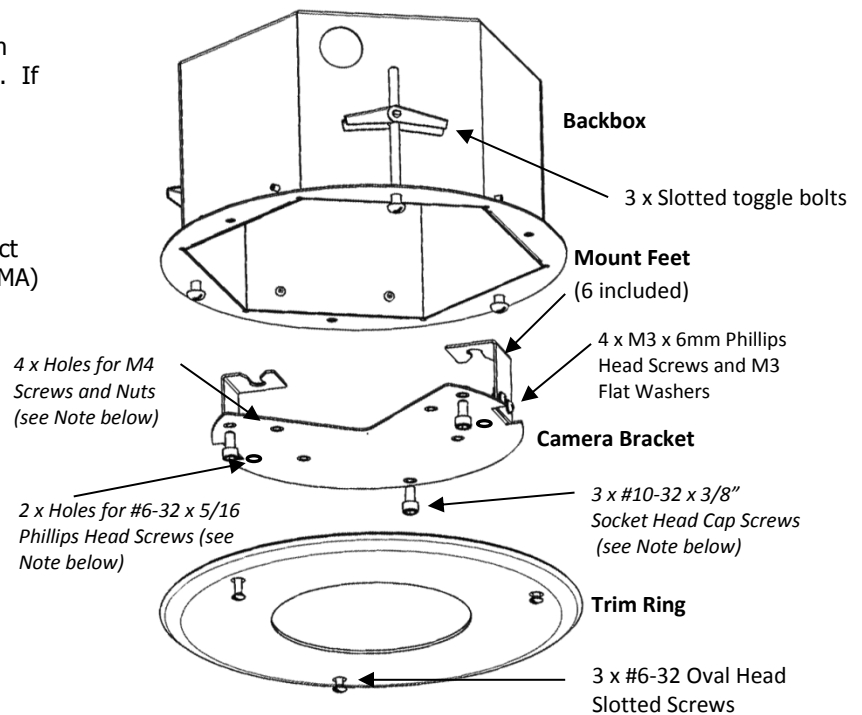

Figure 1 - Backbox Exploded View
6. Attach camera to camera bracket using the hardware referenced in the Note below. Attach the appropriate Mount Feet to the Camera Bracket as shown in Figure 1 using four (4) M3x6mm screws and M3 flat washers.